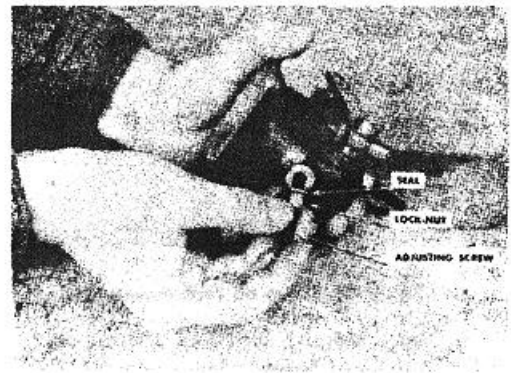

Figure 4-53. Install adjusting screw.
4. Assemble lever to shaft and install the adjusting screws with a seal between the housing and lock nut. Fig. 4-53.